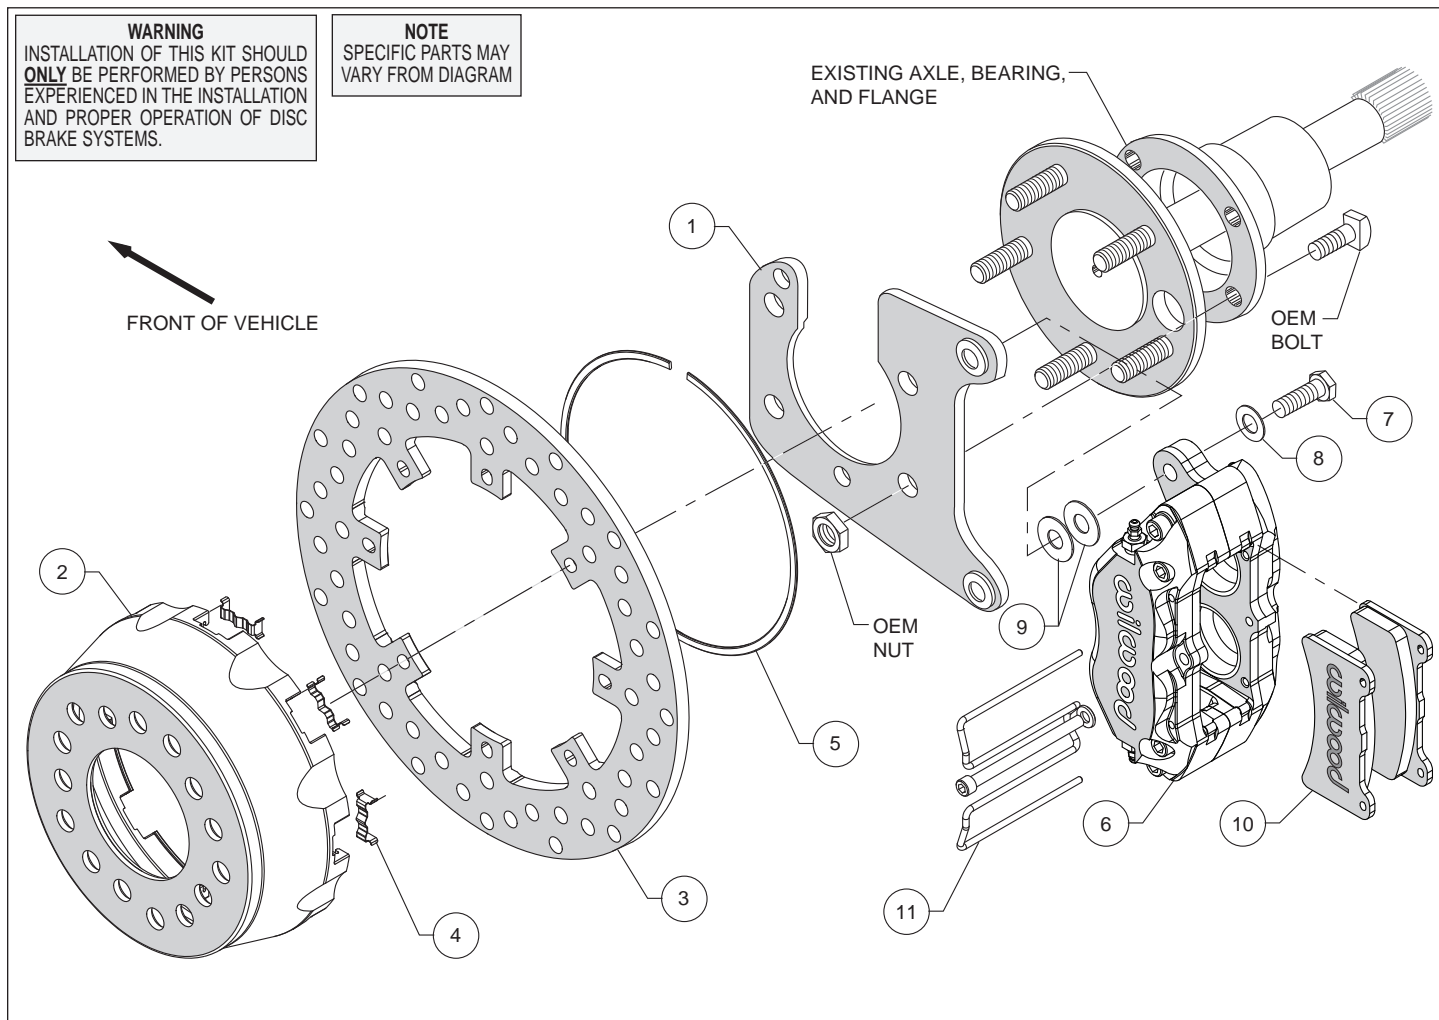
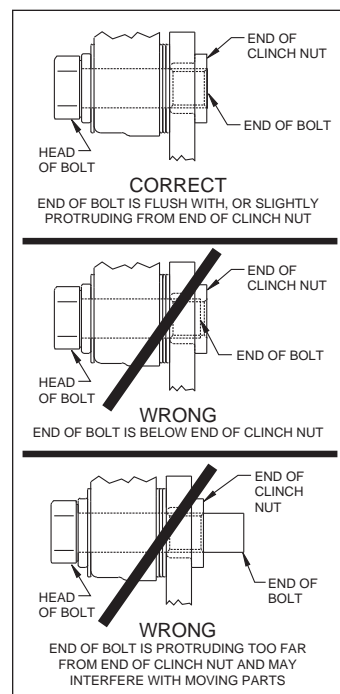

Figure 1. Typical Installation Configuration
Figure 5. Clinch Nut Engagement Diagram
**Assembly Instructions** (numbers in parenthesis refer to the parts list and Figure 1 on the preceding pages): **CAUTION:** All mounting bolts must fully engage clinch nuts. Be sure to check that all bolts are either flush or protruding through flanged side of clinch nut after shimming, Figure 5.
- Install the caliper mounting bracket (1), with the slot for the axle pointing upward, to the housing flange using the OEM bolts and nuts, as shown in Figure 1 and Photo 1. Ensure that the heads of the clinch nuts are facing outboard, Photo 1. Apply red *Loctite*® 271 to the OEM bolt threads and torque to OEM specifications.
- Insert the dynamic mount wear clips (4) into the slots in the hat (2) making sure the tabs snap in place, Photo 2. Orient the rotor (3) as shown in Figure 1 and Photo 3, with the flush mount tab side facing the hat. Attach the rotor to the hat using snap ring (5) by pushing down on the rotor and installing the ring into the groove in the hat, as shown in Photo 4. Ensure that the ring is fully engaged in the groove.
- Align the correct hole pattern in the hat (2) with the axle stud pattern and slide the hat/rotor assembly onto the axle hub. **NOTE:** The hat must fit flush against the axle flange or excessive rotor run out may result. Install three lug nuts (finger tight) to keep the hat/rotor in place while continuing with the installation. **NOTE:** The hats included in this brake kit are drilled for .68" diameter wheel studs.
- NOTE:** Please reference the caution statement at the beginning of the assembly instructions. Mount caliper (6) onto the mounting bracket (1) using bolts (7) and washers (8), as shown in Figure 1. Initially place two .035" thick shims (9) on each bolt between the caliper and the bracket, Photo 5. Temporarily tighten the mounting bolts and view the rotor (3) through the top opening of the caliper. The rotor should be centered in the caliper, Photo 6. If not, adjust the caliper by adding or subtracting shims between the bracket and the caliper. Always use the same amount of shims on each of the two mounting bolts. **NOTE:** The end of each bolt must be flush with or slightly protruding from the head of the clinch nut. If necessary, place spare shims between washer and caliper mounting ear to achieve the proper clinch nut engagement, as shown in Figure 5. Once the caliper alignment and clinch nut engagement are correct, remove the bolts one at a time, apply red *Loctite*® 271 to the threads, and torque to